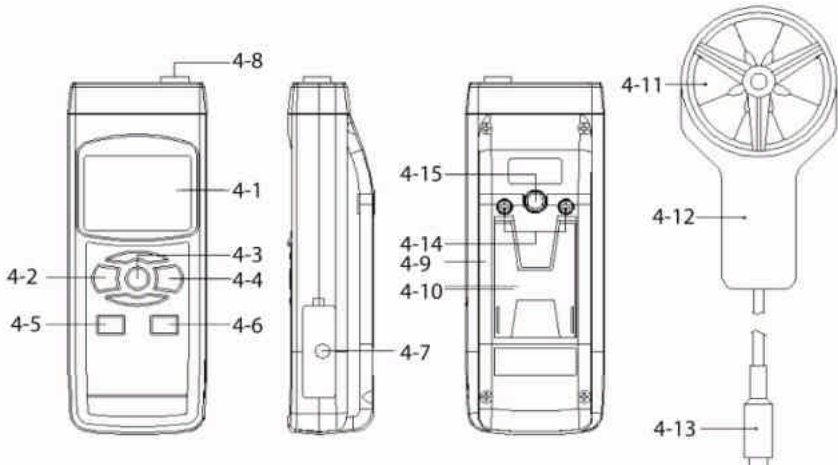

Fig. 1
1. Insert "Probe Plug" (4-13, Fig. 1) into the "Input Socket" (4-8, Fig. 1).
2. Power ON the meter by pressing the "Power Button" (4-2, Fig. 1).
- a. Select the desired air velocity unit of measure by pressing the "unit Button" (4-5, Fig. 1)
- b. Select the desired temperature units by pressing the "C/F Button" (4-6, Fig. 1).
4. Hold the "Probe Handle" (4-12, Fig. 1), face the "Vane Probe Head" (4-11, Fig. 1) to the air flow source to be measured. The air velocity and temperature will both be displayed on the LCD.
- a. During a measurement, press the "Hold Button" (4-3, Fig. 1) to hold the displayed value on the LCD. The "HOLD" symbol will also be displayed on the LCD.
- b. Pressing the "Hold Button" (4-3, Fig. 1) will release the data hold function.
- a. To record the maximum and minimum readings, press the "REC Button" (4-4, Fig. 1). The REC symbol will be displayed on the LCD. By pressing the "REC Button" (4-4, Fig. 1) you can toggle through the Max and Min values.
- b. To delete the recorded values press and hold the "Hold Button" (4-3, Fig. 1) for about 3 seconds.
- c. To stop using the REC function, press and hold the "REC Button" (4-4, Fig. 1) for at least 3 seconds.
To disable this function, select the memory record function during a measurement by pressing the "REC. Button" (4-4, Fig. 1).
This instrument has RS232 PC serial interface via a 3.5 mm terminal (4-12, Fig. 1).
2. Open the “Battery Compartment” (4-9, Fig. 1) by first loosening the “Battery Cover Screws” (4-14, Fig. 1).
3. Replace the batteries with “good” batteries noting the correct polarity . Replace “Battery Compartment” (4-9, Fig. 1) and “Battery Cover Screws” (4-14, Fig. 1). Ensure the cover is securely fastened.